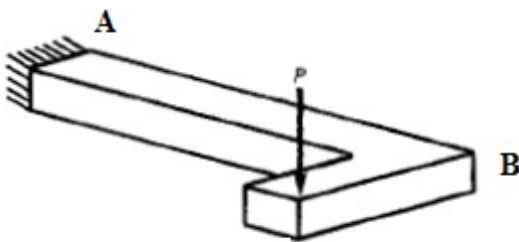
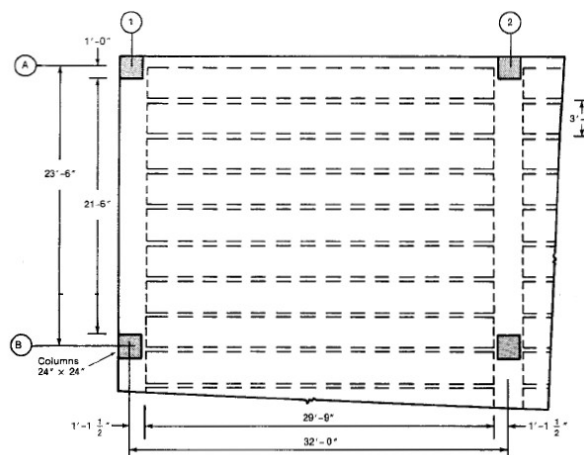

Fig.1
Fig.2
32. Explain why the torsion the edge A-B in fig.1 is called equilibrium torsion while the torsion the edge A1-B1 in fig.2 is called compatibility torsion.